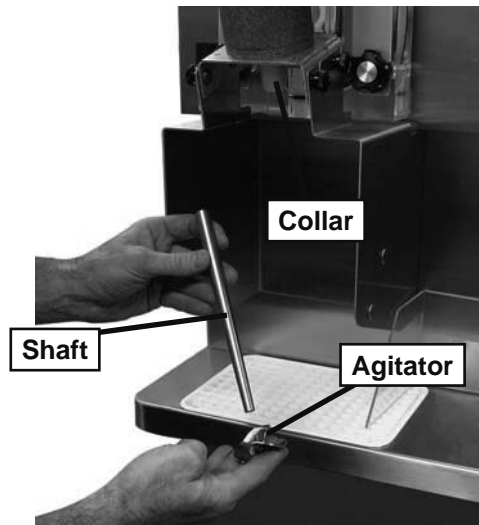

Figure 3-4 SU444 Blender Agitator Assembly
3. Remove the blender agitator by holding the blender shaft and turning the agitator counterclockwise. Remove the blender shaft by holding the blender collar and turning the shaft counterclockwise (Fig. 3-4).